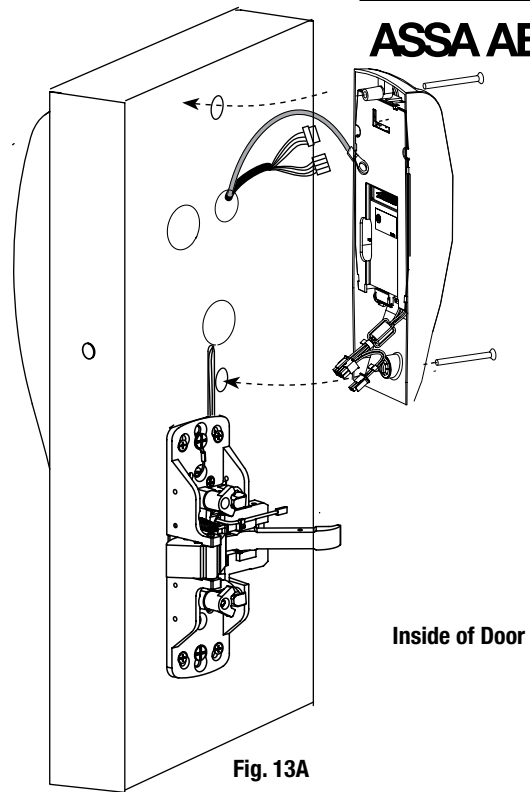

Fig. 13A
3. Straighten escutcheons and tighten securely (Fig. 13A).